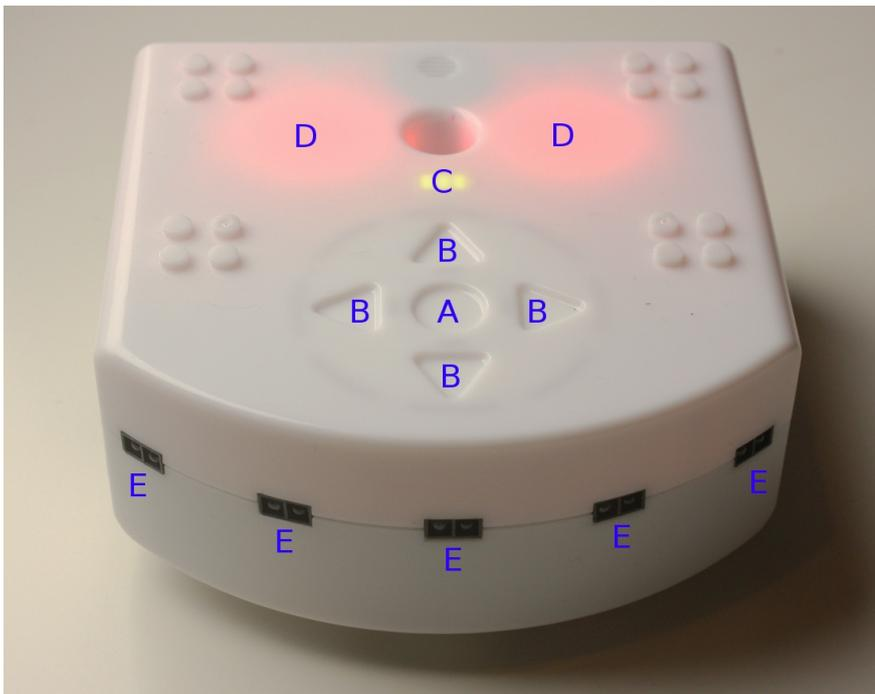

Figure 1.1: The top and front of the Thymio robot
The Thymio is a small robot intended for educational purposes (Figure 1.1). The robot includes sensors that can measure light, sound and distance, and can detect when buttons are touched and when the robot's body is tapped. The most important action that it can perform is to move using two wheels, each powered by its own motor. Other actions include generating sound and turning lights on and off.
Figure 1.1 shows the front and top of Thymio. On the top you can see the center circular button (A) and four directional buttons (B). Behind the buttons, the green light (C) shows how much charge remains in the battery. At the back are the top lights (D), which have been set to red in this picture. There are similar lights on the bottom (see Figure 3.1). The small black rectangles (E) are sensors which you will learn about in Chapter 4.
Run the program  and touch the buttons to change the robot's colors. Figure 1.1 shows the Thymio displaying red on the top and Figure 3.1 shows it displaying green on the bottom.